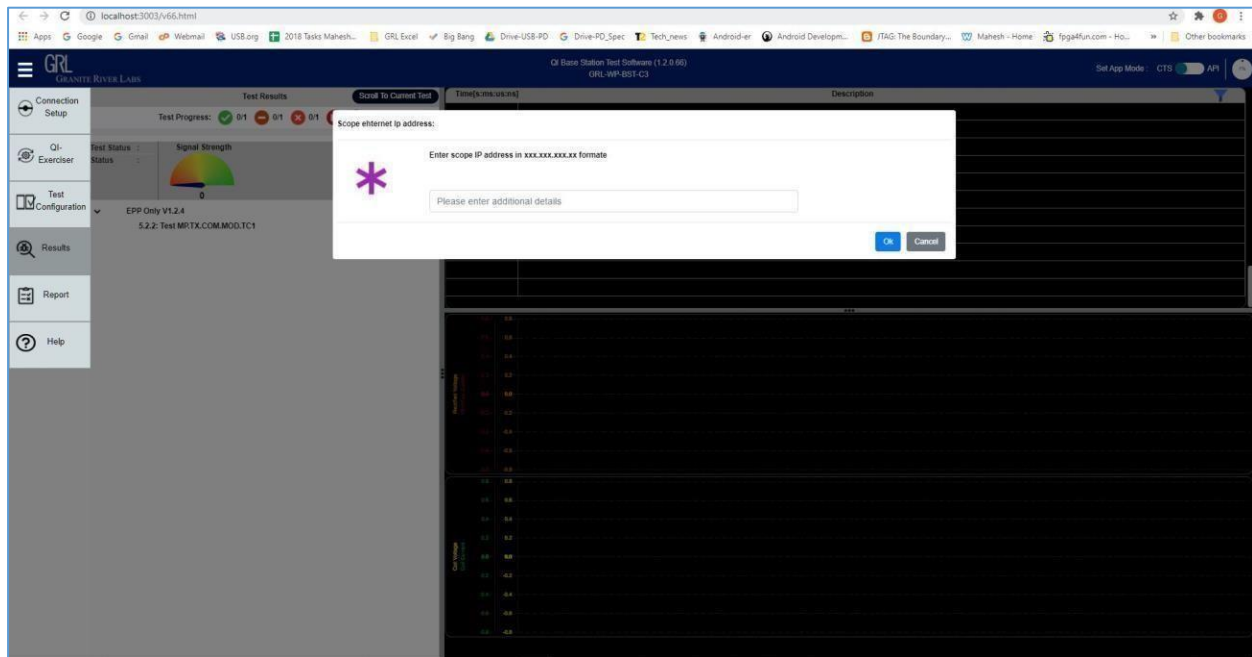

FIGURE 5.2: SCOPE ETHERNET IP ADDRESS POP-UP DIALOG
3. Once execution of the test cases starts, take note of the IP address pop-up dialog as shown in Figure 5.2.